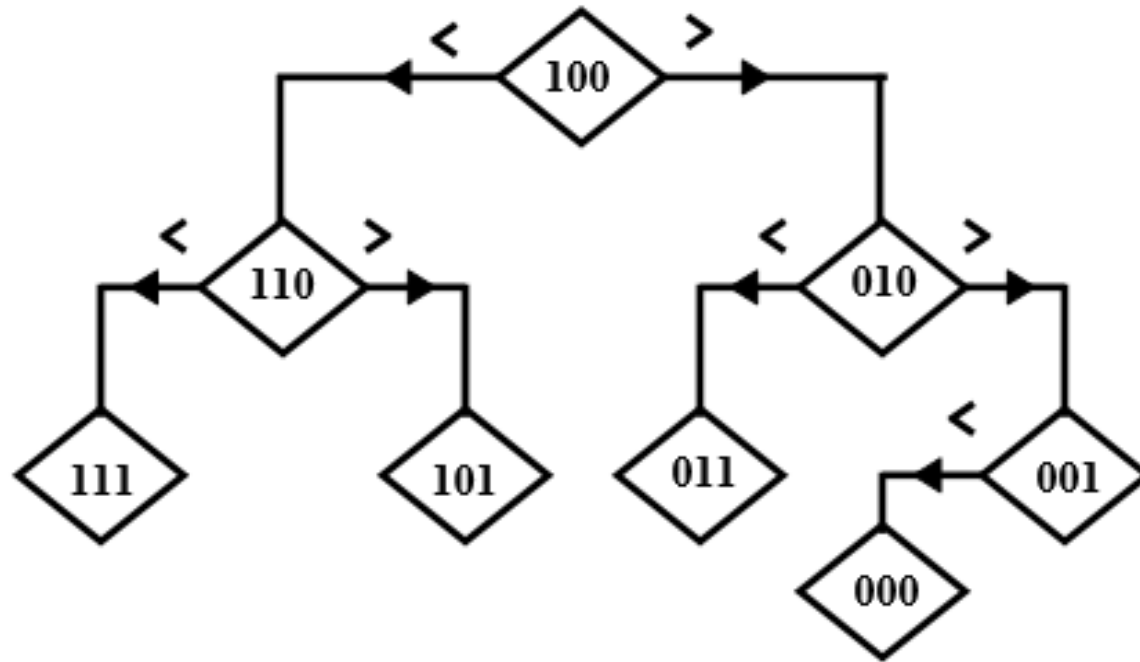

Fig.11 The successive approximation counting
- Therefore, a different method called successive approximation is used for counting as shown in Fig.11.
- The search tree for an SAR search is illustrated in Fig.11.